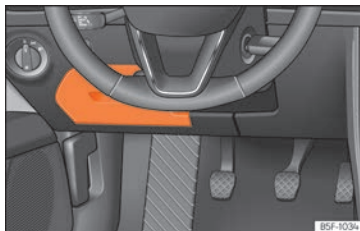

Fig. 51 On the driver's side dashboard: fuse box cover.
- *Open*: fold the cover down »» Fig. 51.